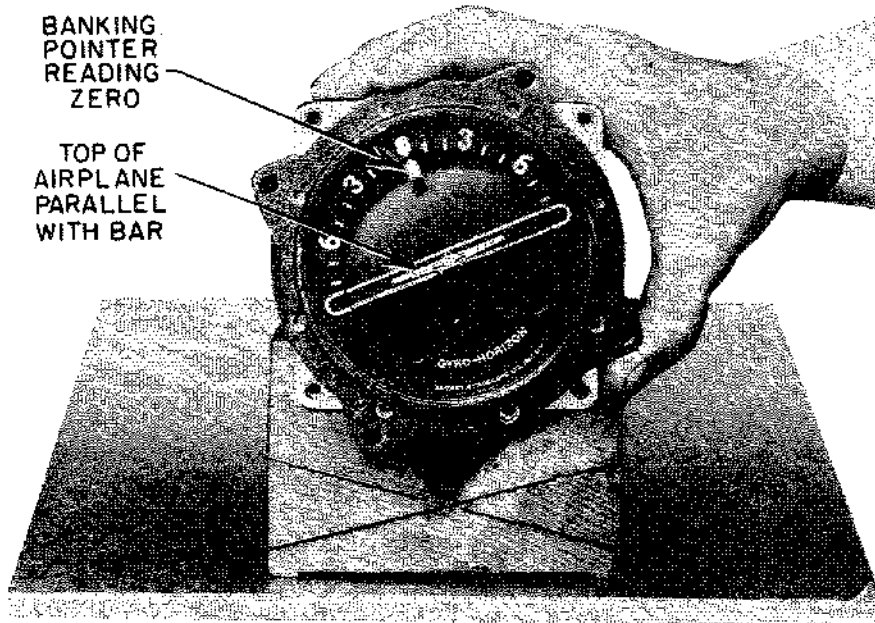

FIGURE 49 CHECKING THE ALIGNMENT OF THE POINTER BAR AND THE BANKING INDICATOR BEFORE REPLACING THE FRONT COVER
8. With instrument case facing you, place front cover against front of case so that top of small airplane wing is parallel to pointer bar. The luminous pointer at the top of the dial must coincide with the zero mark (top centre of front cover). If it does not, bend it slightly at a point near the dial. (See Fig. 49.)